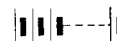

Fig. 21
79. The symbol (Fig. 21) represents a